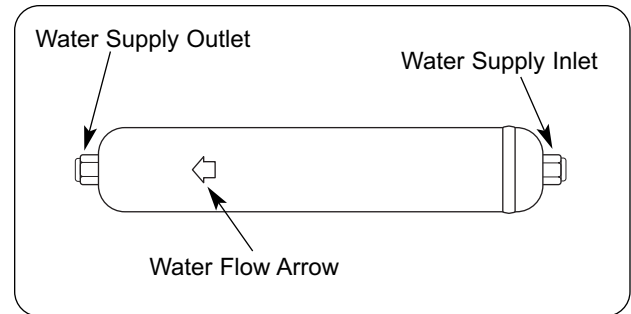

Figure 7. Filter Cartridge
*NOTE: Install filter cartridge with flow arrow towards the equipment. (See Figure 7.)*